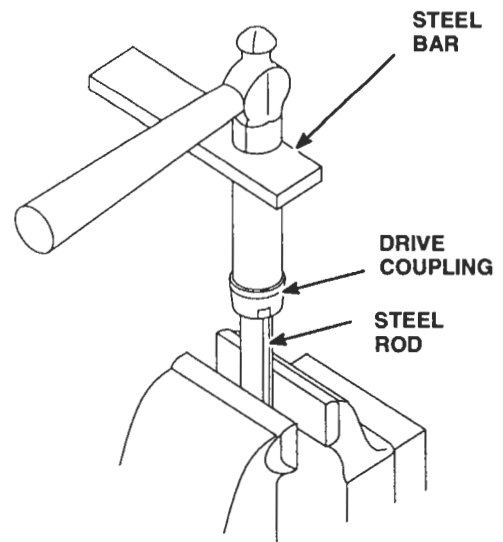

Figure 3. Removing Pump Drive Coupling from Shaft
4. Remove the pump drive coupling from the shaft with tool J 1930 (Figure 3.)